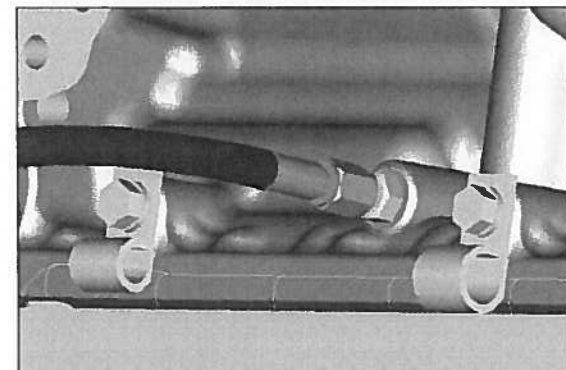

Fig. 30
8. Using the special fitting (379812) to securely attach the high pressure line to the transmission. This fitting is included with the PTO Tighten to 8-10 lbs-ft [11.0-13.5 Nm] (Fig. 30).